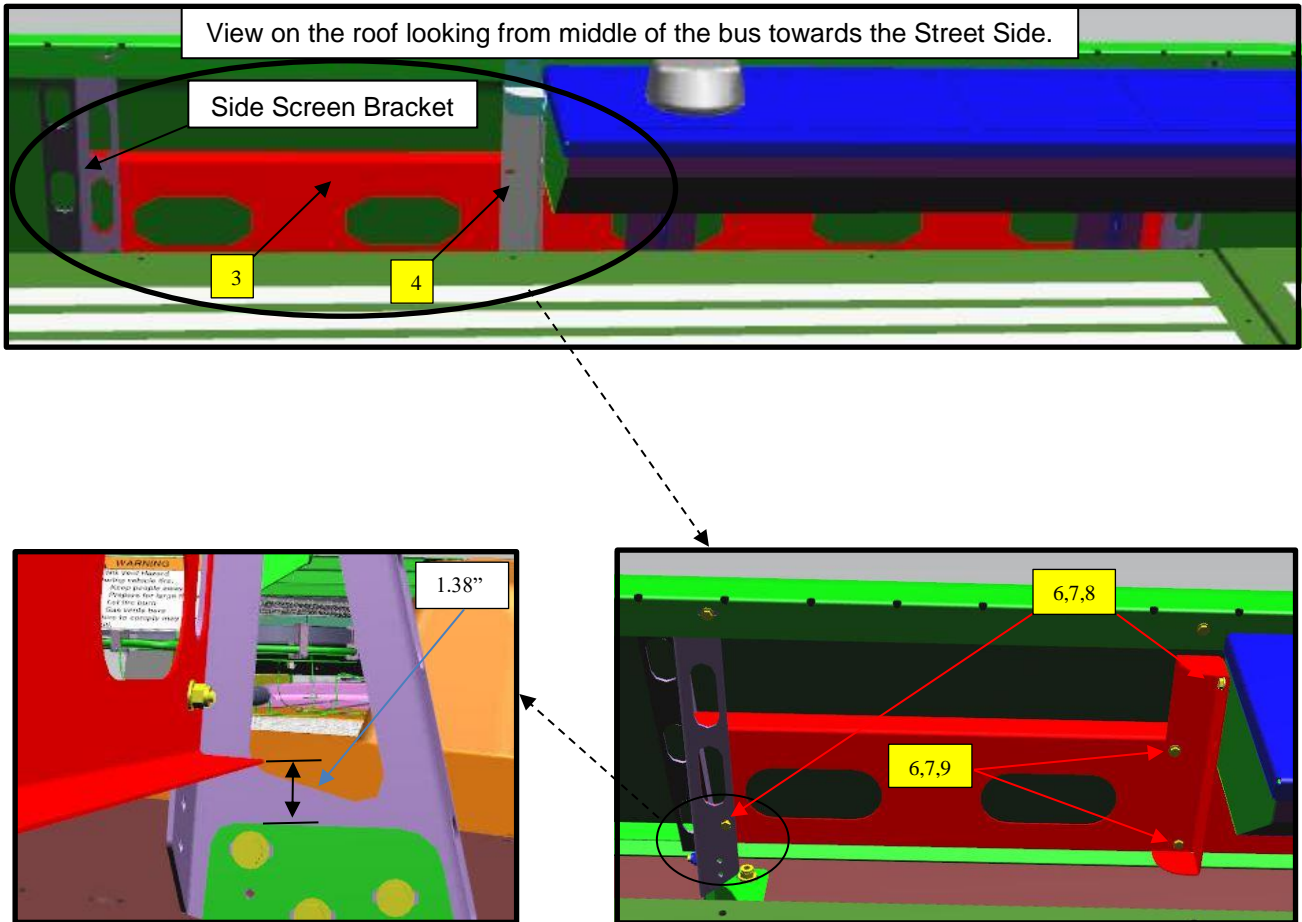

Figure 2: New antenna pedestal mounting bracket locations
5. Align Item #3 Antenna pedestal support bracket 1.38" up from the lower side screen bracket. Attach loosely with Items #6 Bolt, #7 Washer, #8 Nut. Apply 1 or 2 drops of Loctite item #9 to the threads of hardware where weld nuts are used as shown. See Figure 2.
6. Attach Item #4 Antenna mounting bracket loosely with Items #6 Bolt, #7 Washer and #8 Nut. See Figure 2.
8. Tighten all mounting hardware in steps 5-6 and torque to 75 IN-LBS. See Figure 2.